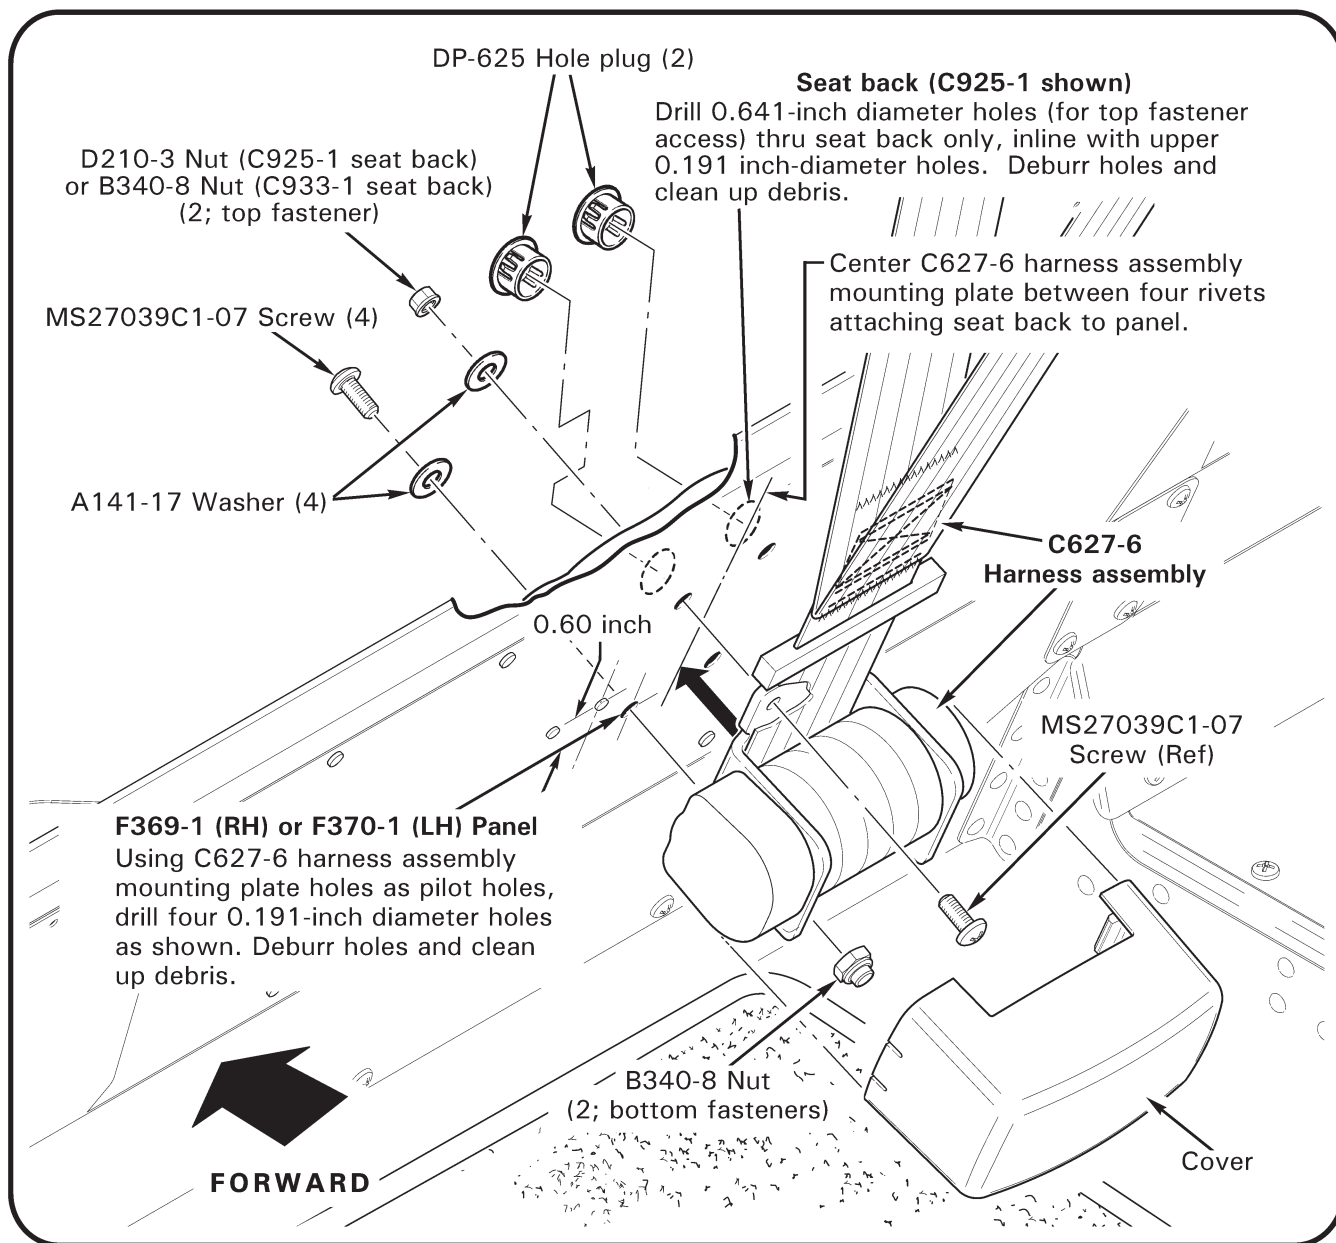

FIGURE 3
8. Drill 0.159-inch diameter hole in F423-1 tube in center of marked fitting location. Deburr hole & clean up debris. Attach lower fitting to tube using NAS9301B-5-06 rivet and install C421-6 tube on fitting. Position F423-4 tube's fitting on C421-6 tube and install (6) MS27039C0809 screws securing F423-4 tube to door posts. Verify security.
9. Refer to Figure 3. Perform the following on LH and RH sides of helicopter: Remove C627-6 harness assembly inertia reel cover. Using reel's mounting plate holes as pilot holes, drill four 0.191-inch diameter holes thru F370-1 (LH) and F369-3 (RH) panels as shown. Deburr holes & clean up debris.